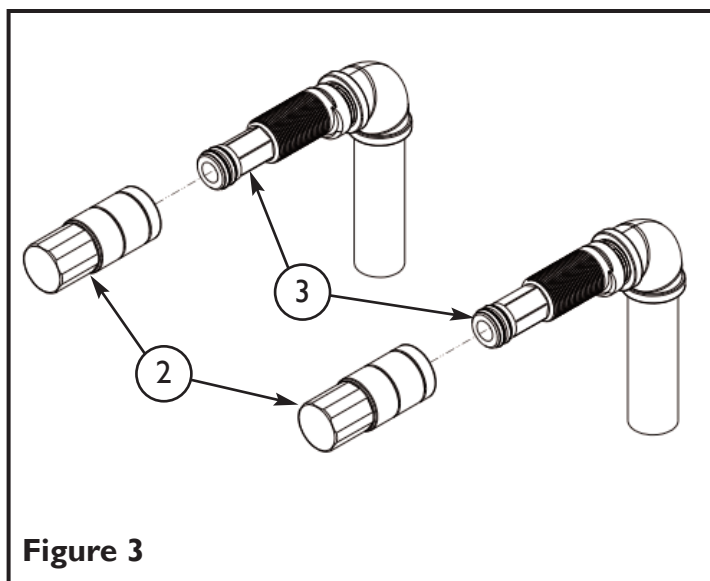

Figure 3
3. Place the TEST PLUGS (2) back on and check for leaks. See **Figure 3**.